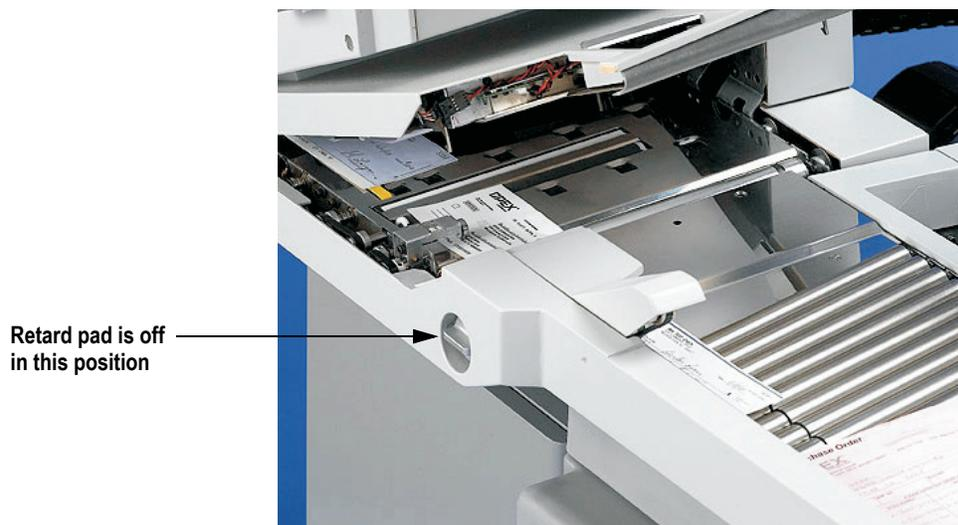

FIGURE 10: Adjust the retard pad switch
- 2 Set the retard pad switch to the desired position. To send a small stack of documents through the scanner at once, engage the retard pad switch. To send thicker documents through one at a time, set the switch to the Off position as shown in Figure 10.